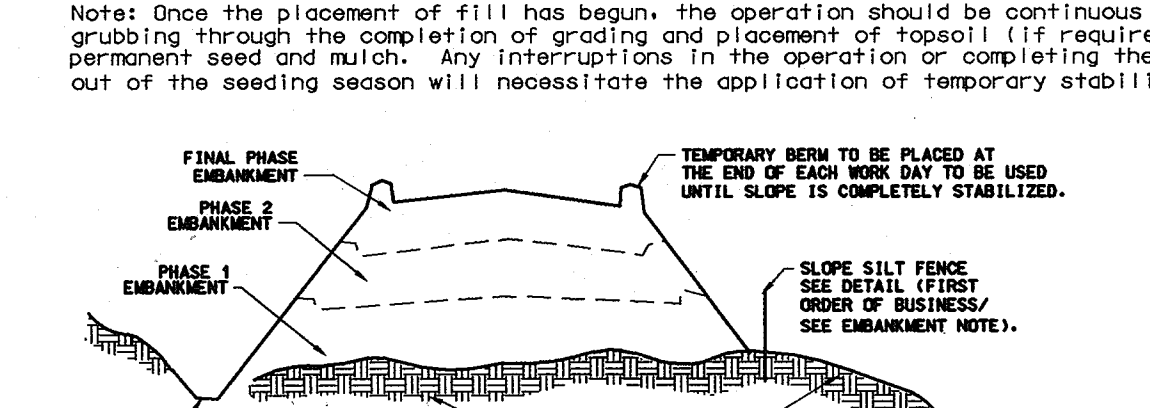

Figure 5 Incremental Stabilization - Embankment Fill
- IV. Construction sequence (refer to Figure 5 below):